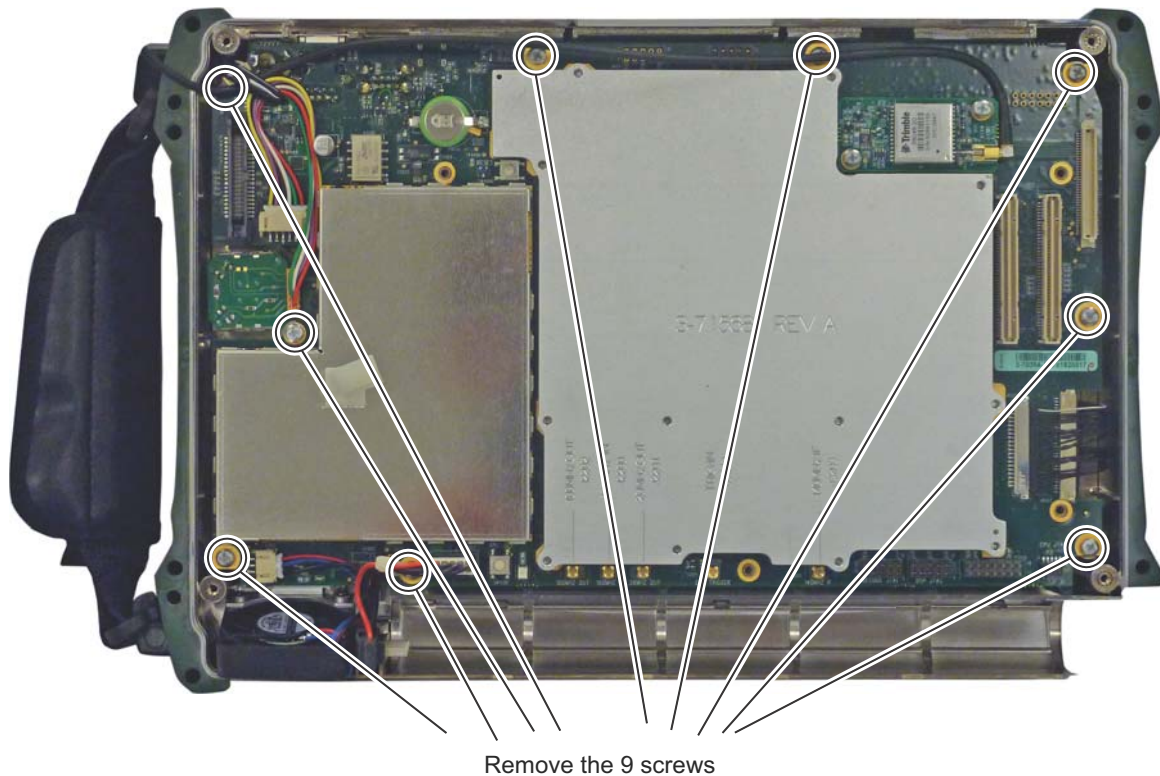

Figure 5-7. Remove the 9 Screws Retaining the Main PCB Assembly
7. Remove the 9 screws retaining the Main PCB Assembly to the Spectrum Master case (Figure 5-7).